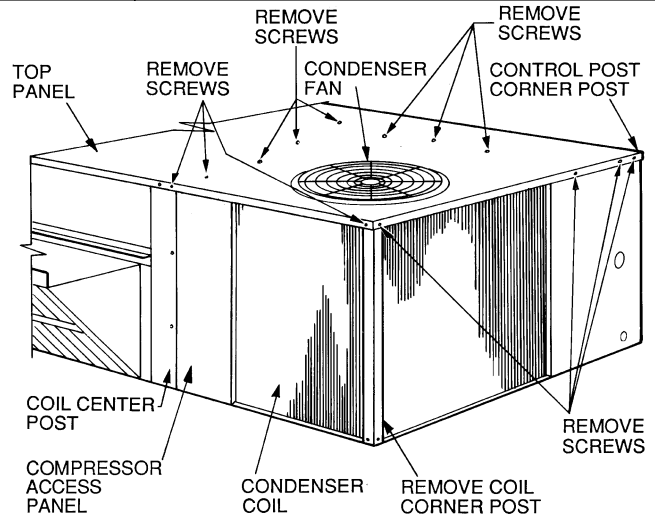

FIGURE 36
3. Remove condenser coil corner post. See Fig. 35. To hold top panel open, place coil corner post between top panel and center post. See Fig. 36.